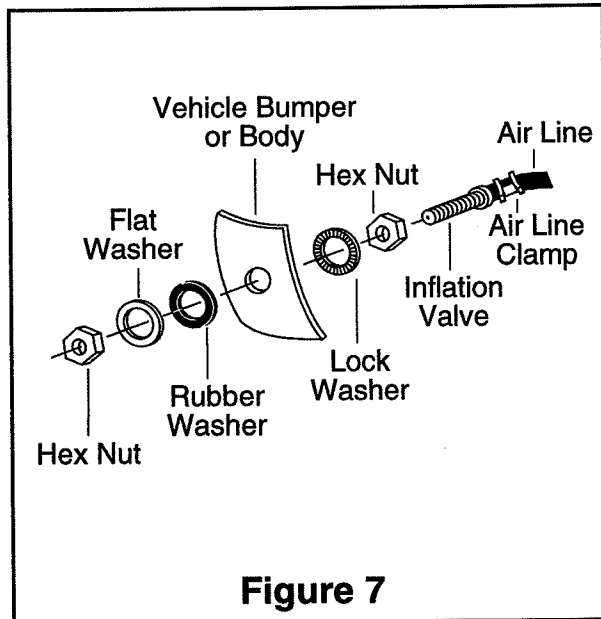

Figure 7
G. Drill 5/16" hole for inflating valves and mount as illustrated. Rubber washer is for outside weather seal (Figure 7).